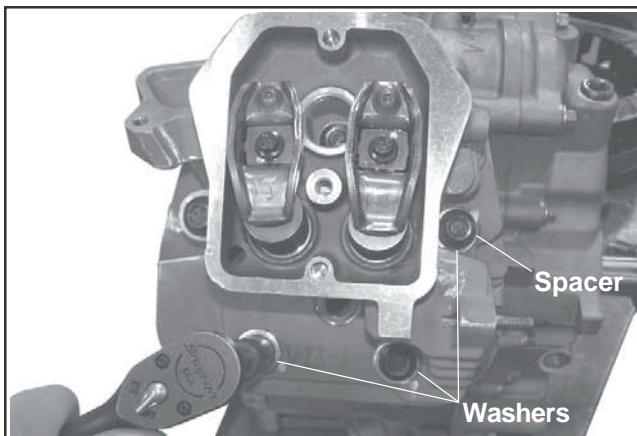

Figure 8-40. Removing Cylinder Head Fasteners.
2. Remove the five hex flange screws securing each cylinder head. Note the locations of washers and spacer. See Figure 8-40.